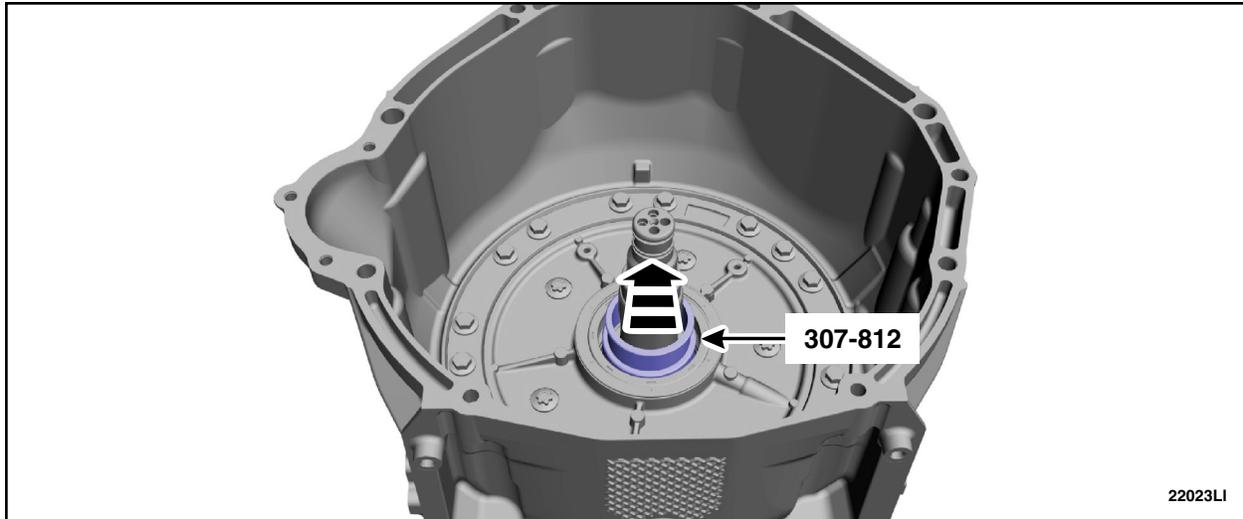

FIGURE 47
54. Remove Special Service Tool: 307-812 pusher & sizer, F1 Seal guide. See Figure 47.